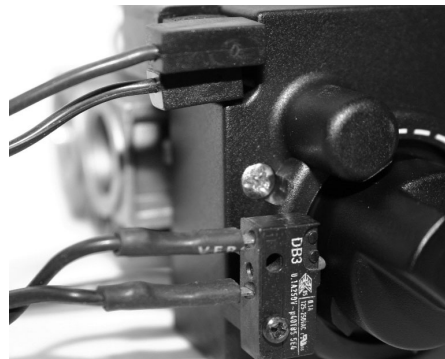

Fig. 17b
2) Next, connect the angled spade connectors to the motor, note there are two different sized connectors and these can only be fitted to the appropriate sized spade tab. The remaining narrow spade connectors fit to the spade tabs on the micro switch. These are not handed, see Fig. 17b.